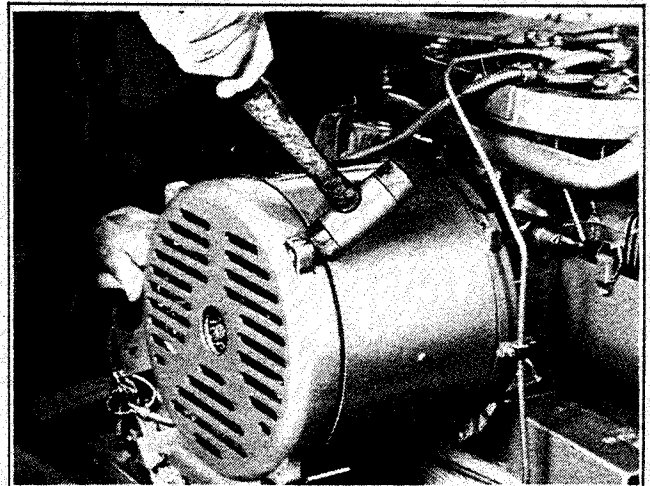

Figure 8-8. Loosening End Bracket
15. Use a rubber mallet to bump end bracket away from stator housing. See Figure 8-8.